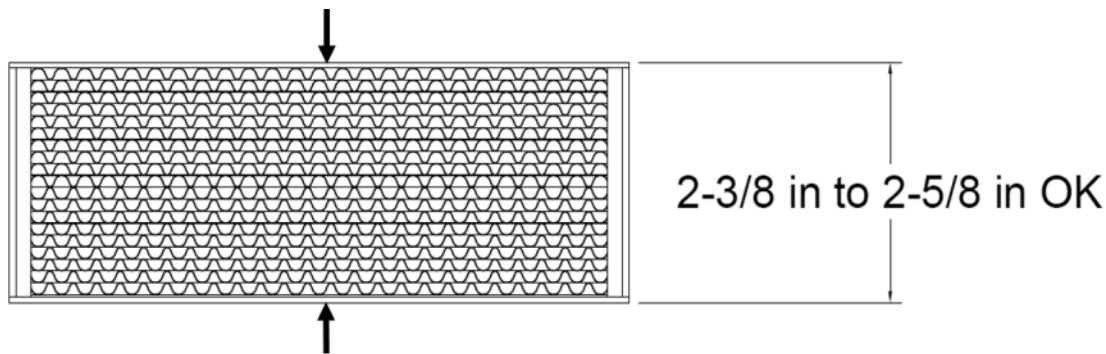

Figure 21 - Acceptable Catalytic Distortion
9. Some warping or bowing of the catalysts over time is acceptable, as long as the catalyst gasket continues to seal. Measure the catalyst in the middle section – if the dimensions are outside the range shown in Figure 21 above, replace the catalyst.